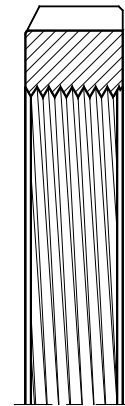

Fig. 1.12
**Accessories** are usually integral parts to a rolling bearing assembly. Examples are adapter sleeves, withdrawal sleeves, lock nuts (see fig. 1.12), locking devices and rolling elements etc.